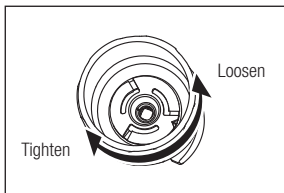

Fig. 3
- Next, tighten the tip wrench (clockwise) until it turns freely and clicks (Fig. 3). At that time, hold the handpiece so as not to kink the handpiece cord. To remove the tip, use the tip wrench and turn (anticlockwise) in the "Loosen" direction in Fig. 3.